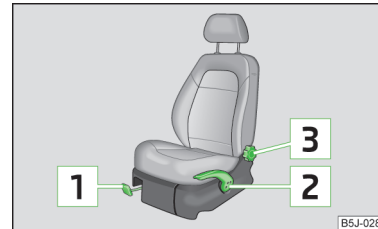

Fig. 54
- Pull lever **1** » Fig. 54 up and push the seat into the desired position.
- To lift the seat, pull or pump lever **2** » Fig. 54 upwards.
- To adjust the angle of the backrest, relieve any pressure from the seat backrest (do not lean on it) and turn handwheel **3** » Fig. 54.